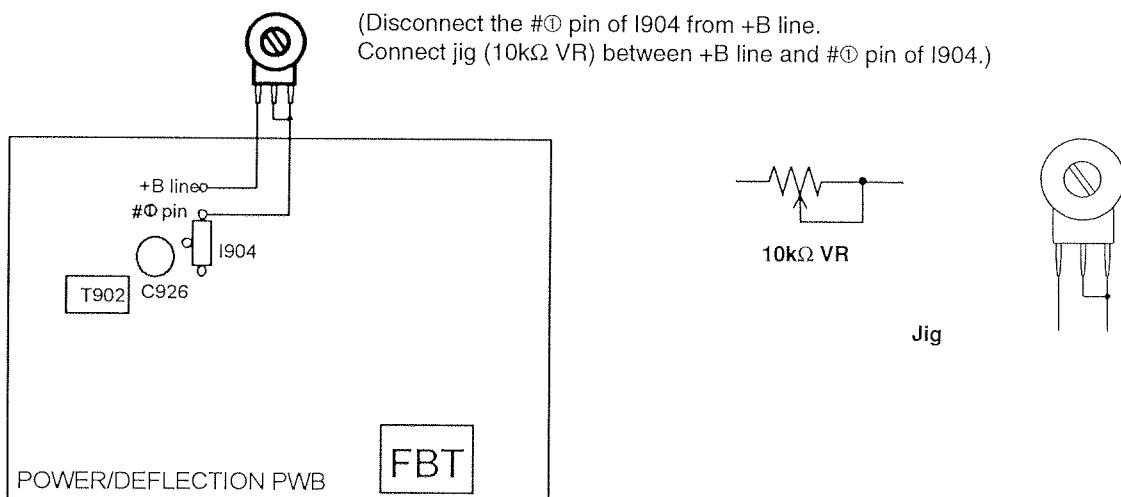

Fig. 2 Deflection/Power Supply P.C.B.
1. Turn off TV and connect jig as shown in Figure 2. Adjust jig fully counter-clockwise for minimum resistance.